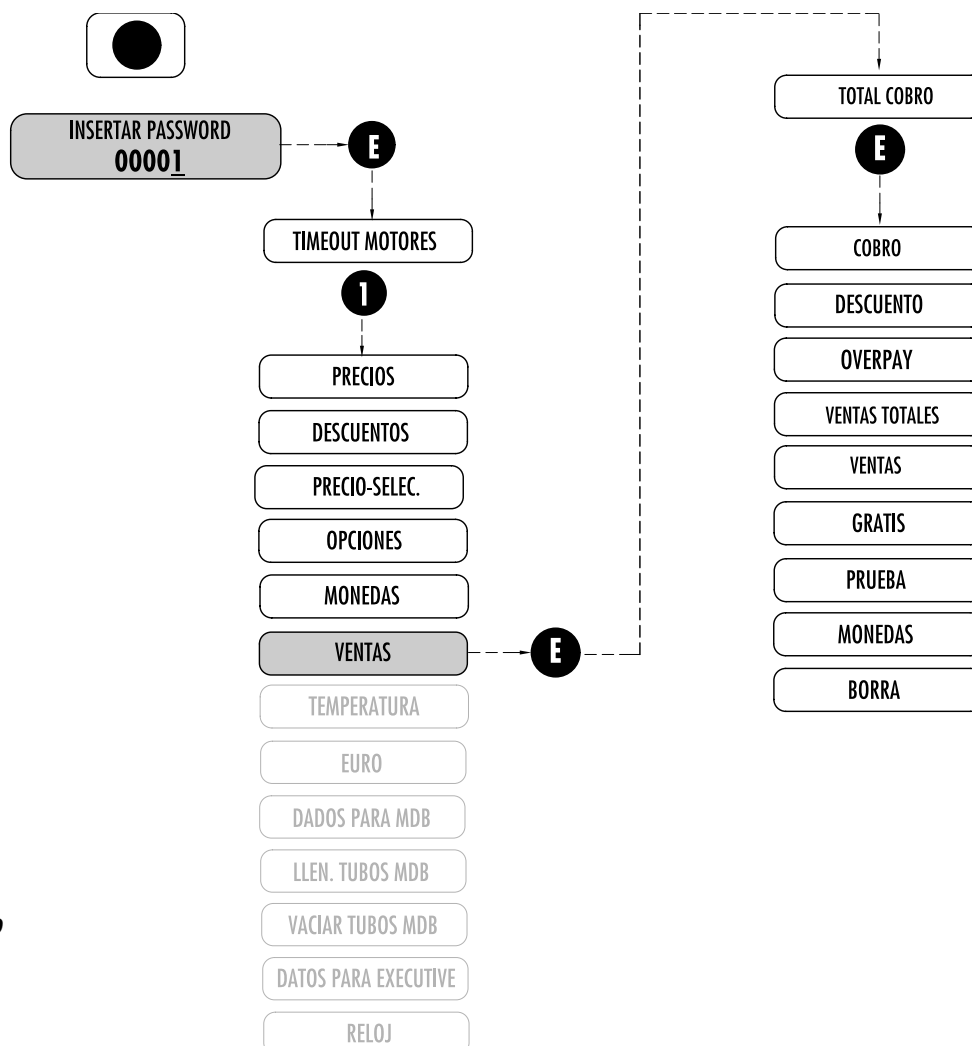

Fig. 7.10
7.2.7 VENTAS (Fig.7.10)
7.2.8 TEMPERATURA (Fig.7.10)